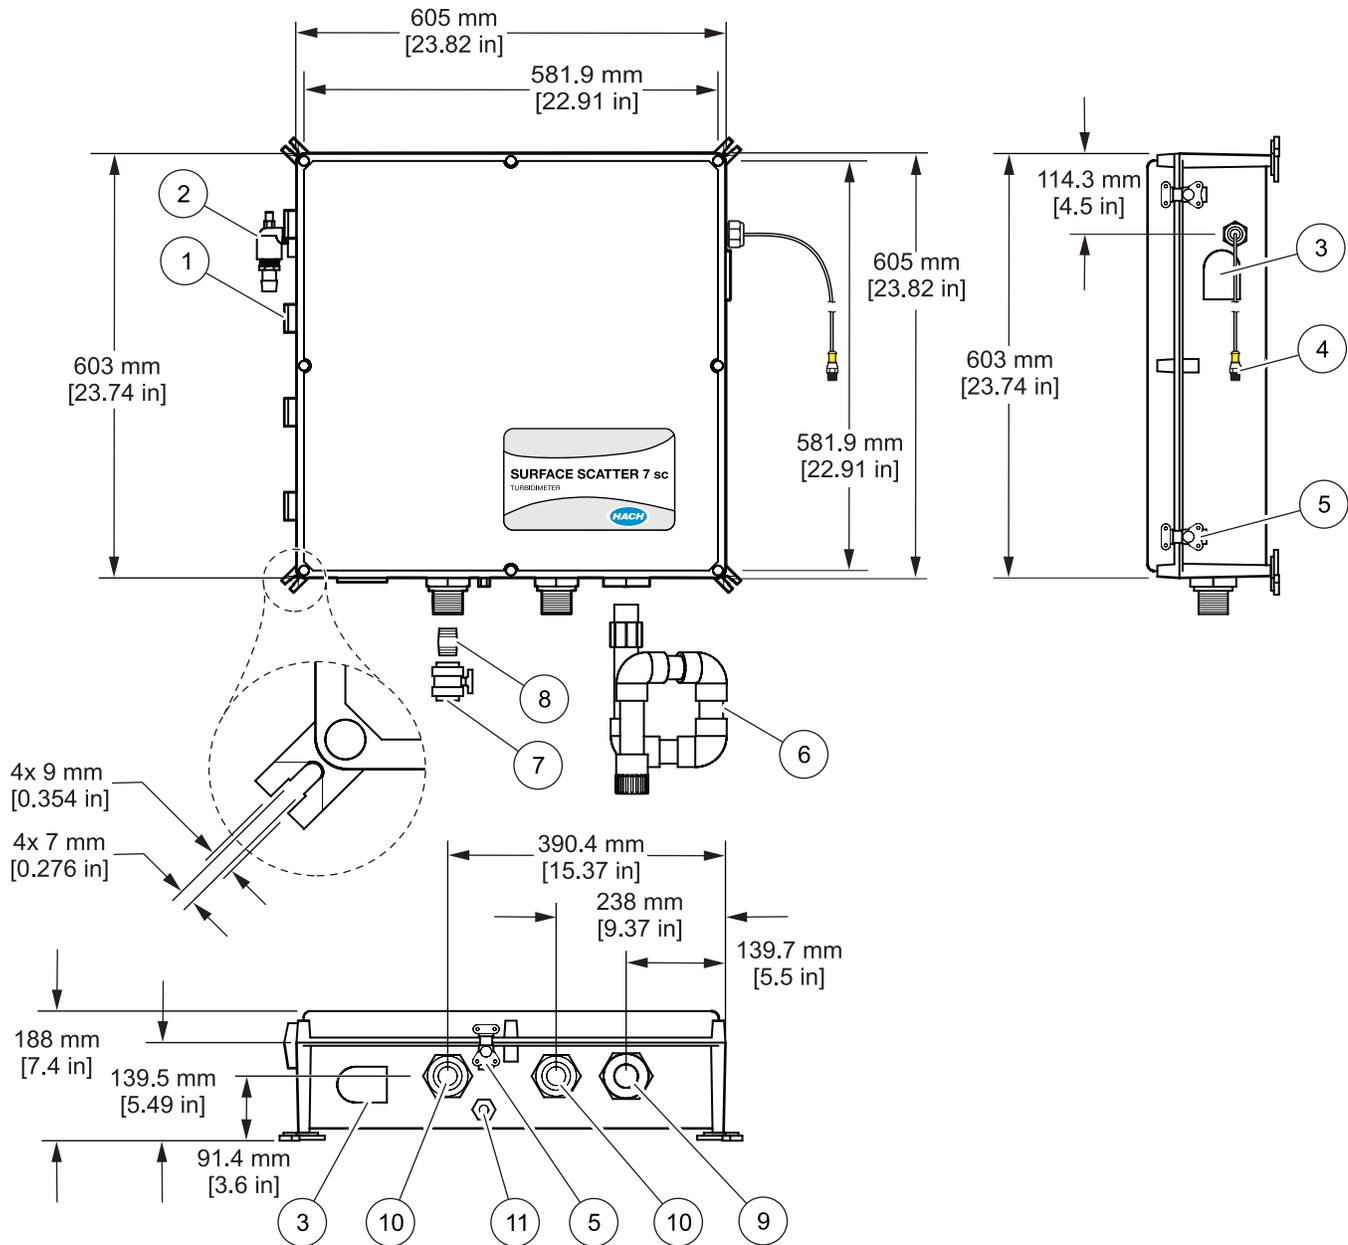
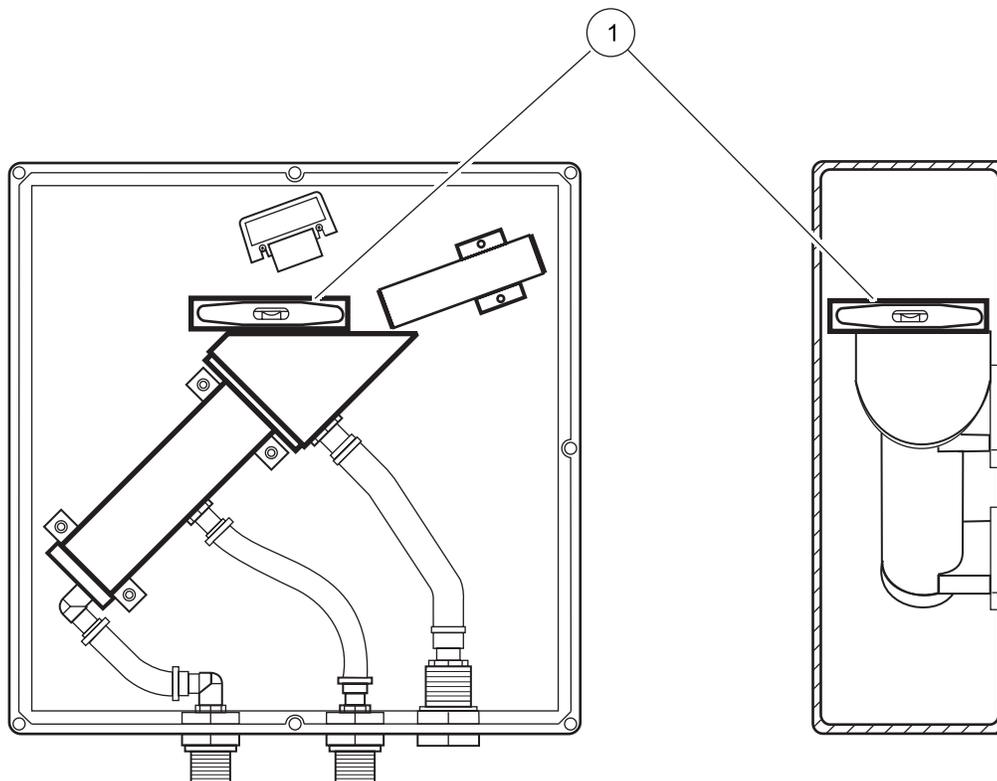
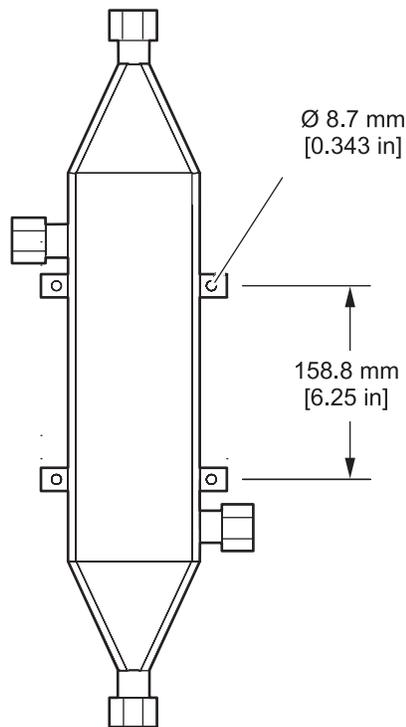

Figure 8 SS7 sc and SS7 sc-HST installation drawing
Figure 9 Instrument leveling
Figure 10 Heat exchanger dimensions
Dimensions and other installation information are shown in Figure 8 on page 18, Figure 9 on page 19 and Figure 10 on page 20. The control and sample unit are designed for wall mounting. The
1. To ensure proper performance, the sample unit must be level (Figure 9 on page 19). Use a small level across the top opening of the turbidimeter body to verify that the instrument does not slope left-to-right or front-to-back.
An optional heat exchanger (Cat. No. 48551-00) is available for the SS7 sc-HST (Figure 10 on page 20). The heat exchanger reduces sample temperatures that exceed the temperature requirements of the instrument. It can reduce sample temperatures of up to 100 °C but is not suitable for steam or super-heated water. A source of cooling water is required. The heat exchanger is made of 316 stainless steel and has $\frac{3}{4}$ " MNPT pipe connections. The large plumbing connections help eliminate clogging.
- See Figure 10 on page 20 for installation dimensions.